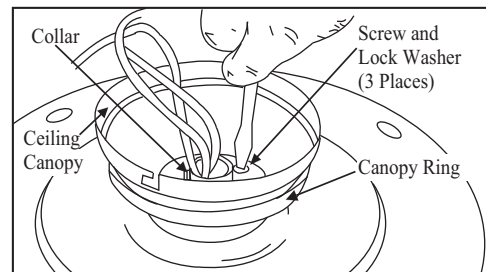

Figure 10
5. Place the rubber gasket over the remaining three screws, route the wires exiting the top of the fan motor through the canopy ring (make sure the slot openings are on top). then proceed to place the ceiling canopy over the collar at the top of the motor. (Figure 10)
6. Align the mounting holes with the holes in the motor and fasten using the screws and lock washers removed in step 4 (Fig. 10).